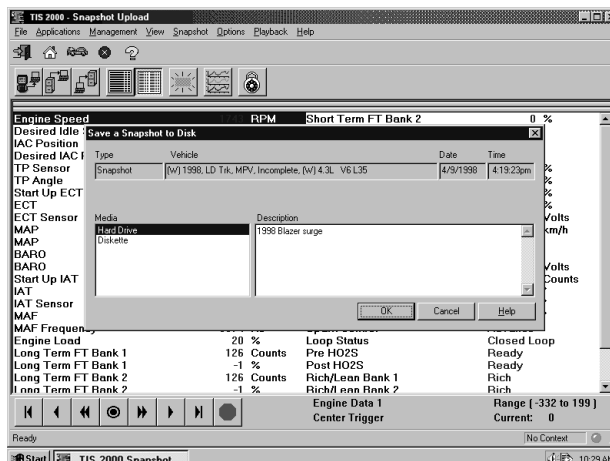

FIGURE 8-54. Save Snapshot Window
**Important:** A single code may be counted as two different codes in a Capture Info. file if it exists both in freeze frame and failure records (Figure 8-54).
The data is displayed on the screen (Figure 8-54). The top of the screen lists DTCs that were stored in the control module. The lower portion of the screen lists captured freeze frame or fail record data for the selected DTC. Notice that the navigation selections at the bottom of the screen are gray. This is because the data record consists of only one frame.